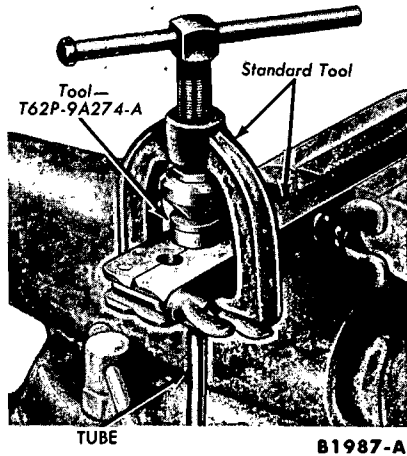

FIG. 5—Fuel Line Tube Die
2. Ream the inside edges of the cut tubing with the reamer blade on the tube cutter. Be sure metal chips are removed from inside the tube(s). Flare the ends of the cut tubing, as required, with a standard tube flaring kit and tool (Fig. 5).